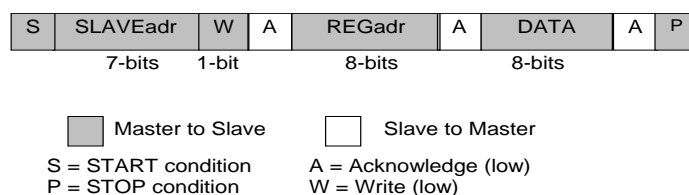
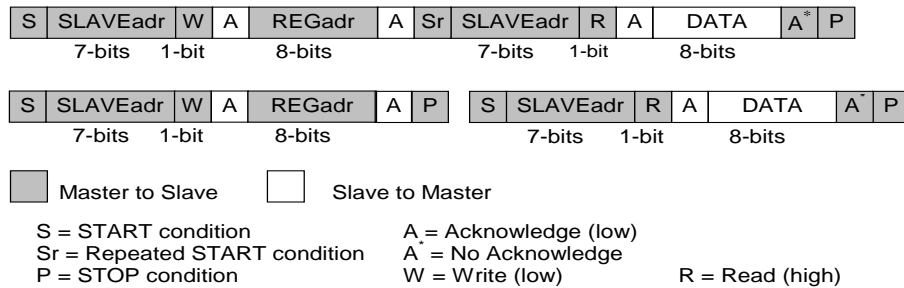

Figure 7: I²C Byte Write (SDA Line)
Figure 8: I²C Byte Read (SDA Line) Examples
The I²C bus is monitored for a valid slave address whenever the interface is enabled. It responds immediately when it receives its own slave address. The acknowledge is done by pulling the SDA line low during the following clock cycle (white blocks marked with A in Figure 7 and Figure 8).
The protocol for a register write from master to slave consists of a START condition, a slave address with read/write bit, and the eight-bit register address followed by eight bits of data, terminated by a STOP condition. DA9141-A responds to all bytes with acknowledge (A), see Figure 7.
with a repeated START, or alternatively a second START, condition. After receiving the data, the host sends no acknowledge (A*) and terminates the transmission with a STOP condition, see Figure 8.